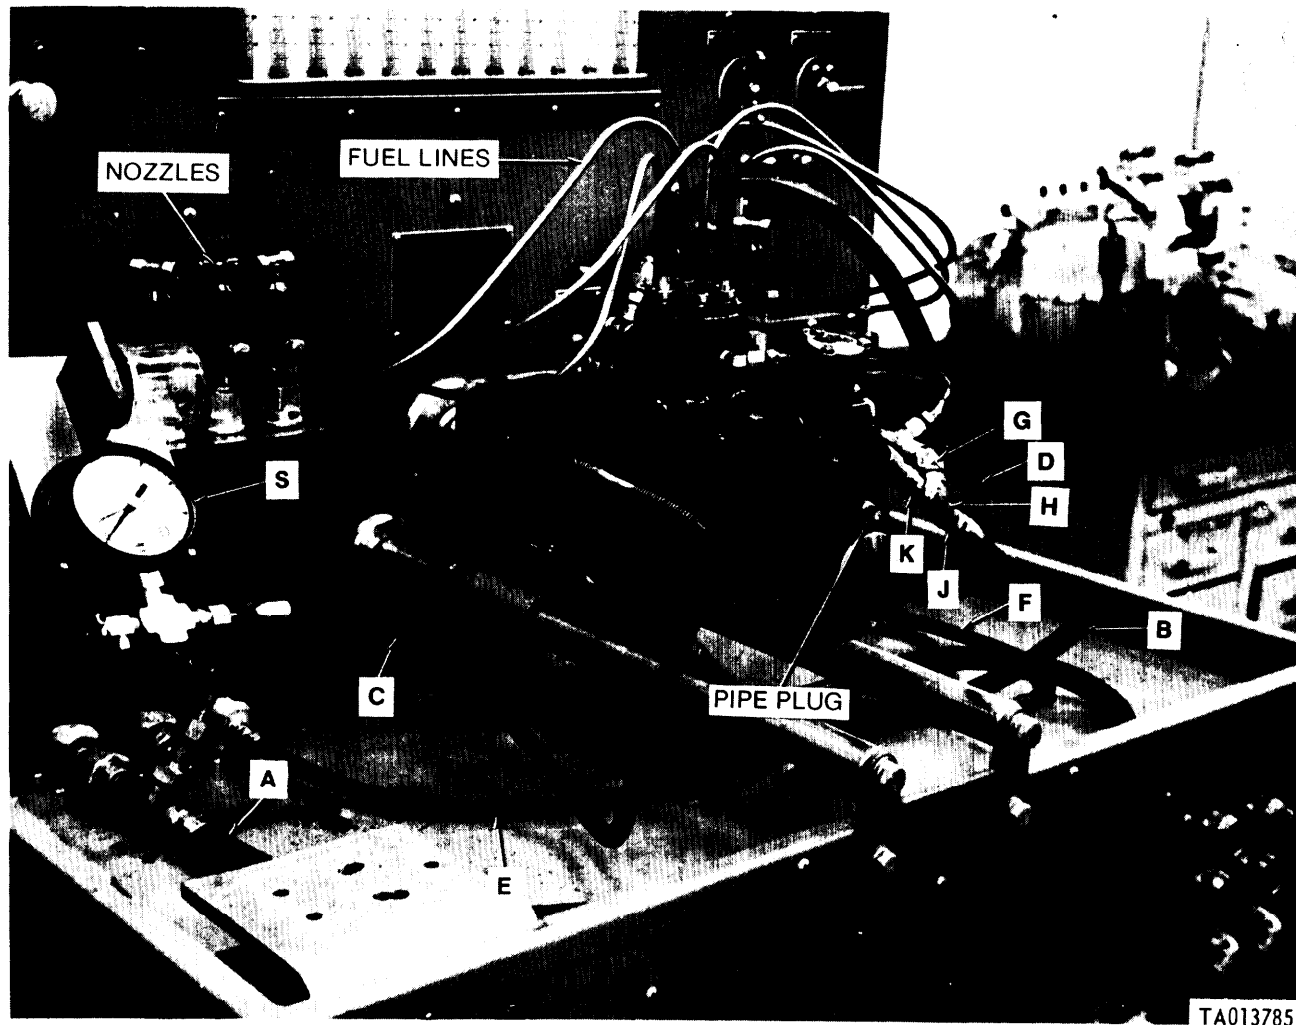

Figure 3-163. Fuel injection pump installed on test stand, left side.
g. Improvise a manifold composed of a 3/8 in. flare tube to 1/4 in. 45-degree pipe elbow (G, fig. 3-163), 1/4 in. pipe tee (H), 1/4 in. pipe to 1/2 in. flared tube adapter (J), and 1/4 in. pipe to 1/4 in. flare tube adapter (K) (on all pumps except code G). On code G pumps only, install improvised adapter manifold into hydraulic head inlet fitting after hydraulic head port closing test, delivery valve test, and hydraulic head leak test.
KEY to fig. 3-163
3-53. Hydraulic Head Port Closing Test. a. Secure the throttle lever in the full fuel position with a spring or other suitable device (fig. 3-163).